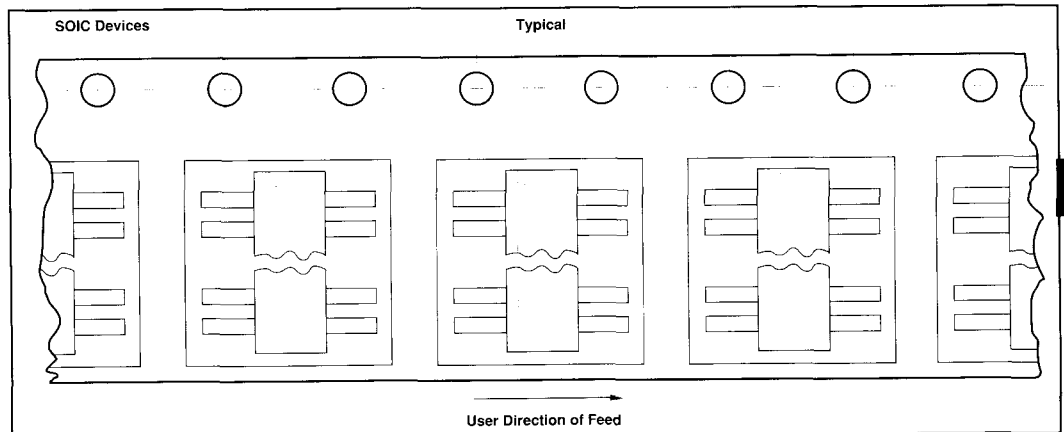

FIGURE 2.
(6) eB is measured at the lead tips with the leads unconstrained.
(7) N is the maximum number of terminal positions.
(8) Corner leads (1, 4, 5, and 8) may be configured as shown in Figure 2.
(9) For automatic insertion, any raised irregularity on the top surface (step, mesa, etc.) shall be symmetrical about the lateral and longitudinal package center-lines.